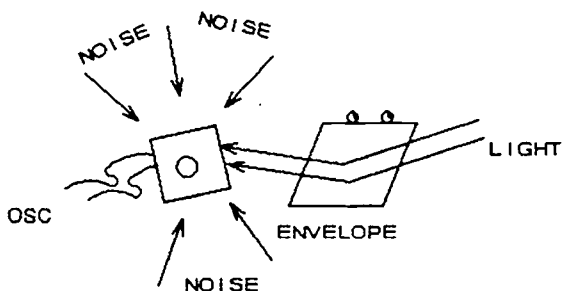
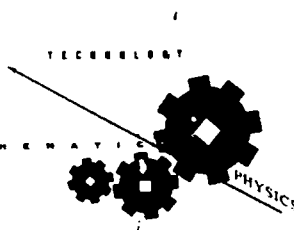

Figure C-2-6
Figure C-2-7
- To see how much noise is given off in the dark (must have lights off), hold the photo cell at an angle to the envelope (see Figure C-2-6, "Noise") and write down the voltage from the oscilloscope in the noise row of Table C-2-2, "Reflectivity." Now try to hold the photo cell at the same angle and have your partner shine the laser beam so that the reflection hits the photo cell (see Figure C-2-7, "Photo Cell Reflection"). Now put this oscilloscope reading into the "Reflection Off Card" row of Table C-2-2. Do this for all the different color cards, also in Table C-2-2.